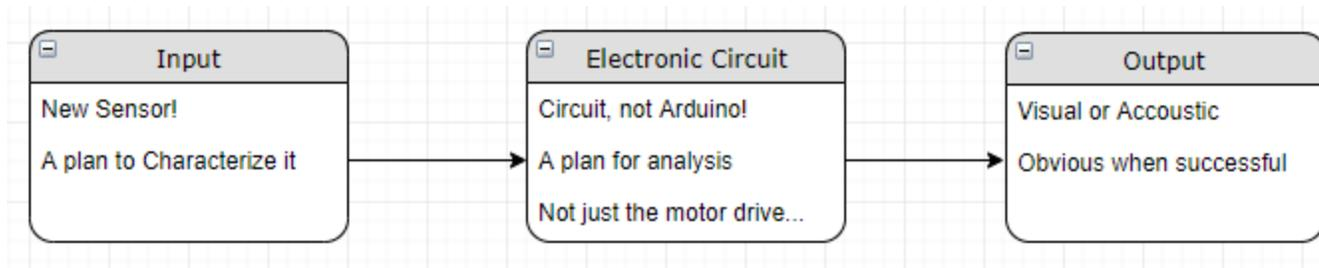

Figure 1: Three essential features of any ECE 110 Project. Arduino may be used, but cannot be a substitute for electronics.
4. Students occasionally have misconceptions about this course and the requirements of the final design project. ECE110 is **not a programming course**. Rather, it provides limited exposure to some scientific computing basics (using software to plot and model) and some physical computing basics (using Arduino as a measurement device and a digital controller). Only plotting (graphing) is a requirement in the final project. Other use of physical computing in the final project is purely up to the student team as most projects do not necessitate the use of a digital controller. In other words, feel free to use Arduino as part of your solution, but "removal" of the Arduino should still reveal the three pieces (demonstrated in Figure 1) to be intact.